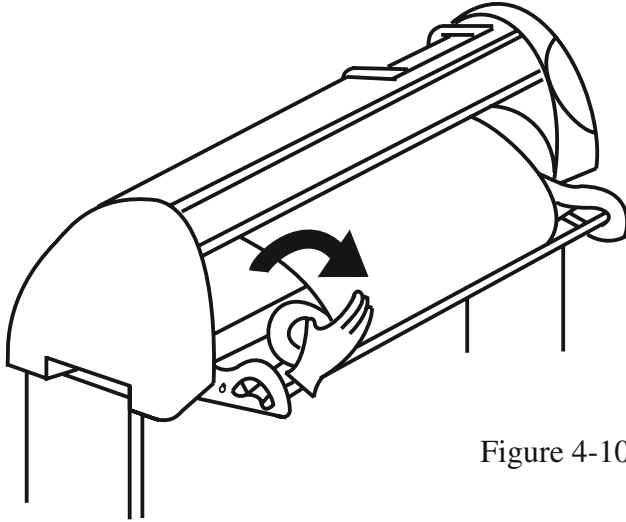

Figure 4-10
4) Then turn the roll downward to make an equal tension across the media (Figure 4-10)